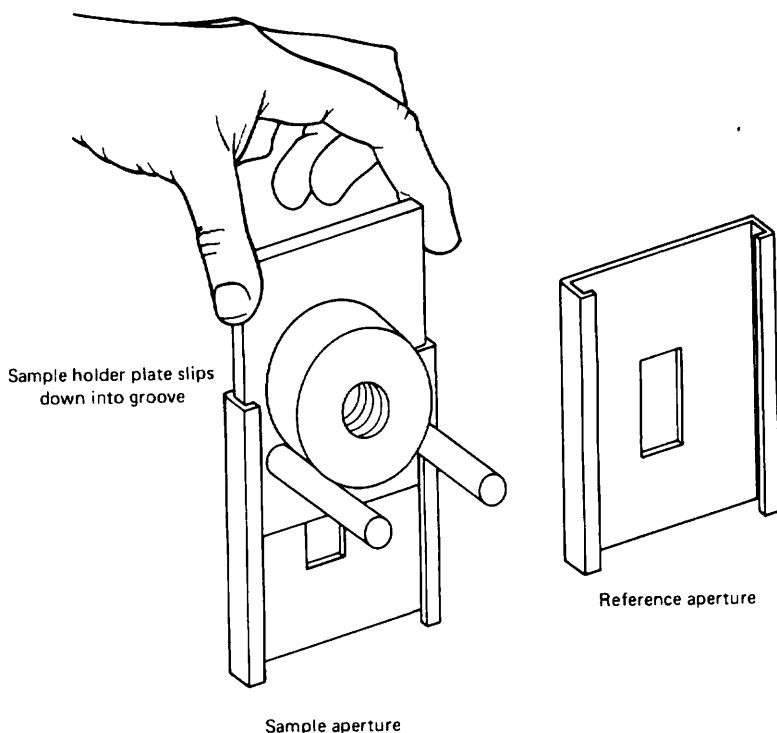

Fig. 157 Putting sample holders with samples into the beam.
11. Put the card in the **sample beam aperture** (Fig. 157). The KBr window should be *centered* in the sample beam if you've cut and punched the card correctly.
4. Put your sample in the sample beam. Slide the sample holder with your sample into the sample beam aperture (Fig. 157).